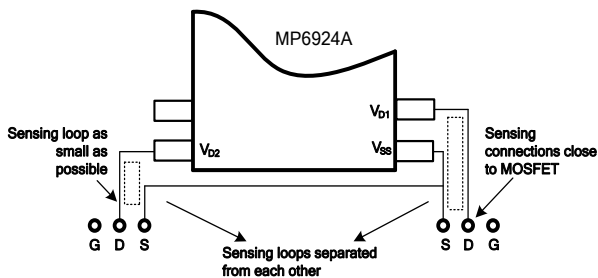

Figure 7: Sensing for  $V_D/V_S$
3. Make the sensing loop as small as possible (see Figure 7).